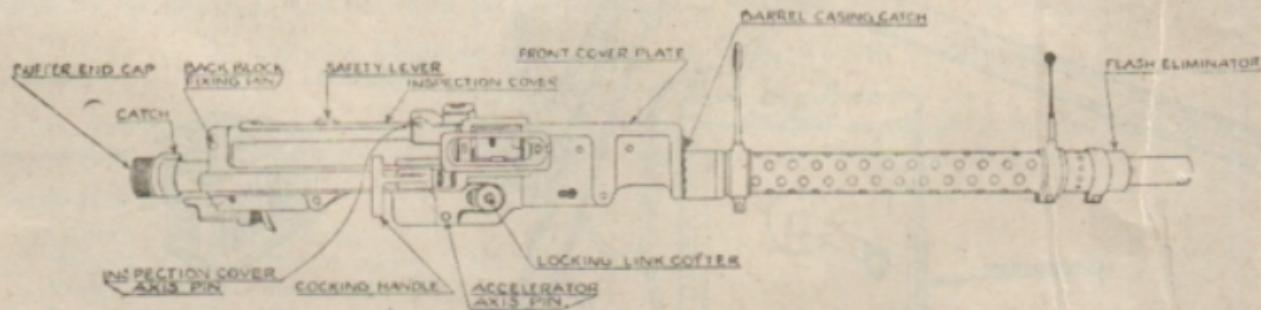

FIG. 11.—7.7 mm. AIRCRAFT M.G.—BREDA-SAFAT.
19. 7.7 mm. Aircraft M.G.—Breda-Safat. (Fig. 11) *Mitragliatrice Breda-Safat, Cal. 7.7*